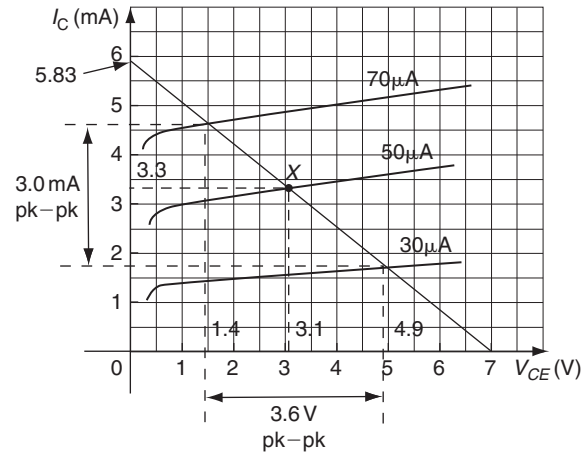

Figure 12.26
The characteristics are drawn as shown in Fig. 12.26.
- (b) The maximum and minimum values of collector-emitter voltage may be determined by locating the appropriate intercept points on Fig. 12.26. Note that the maximum and minimum values of base current will be $(50\text{ }\mu\text{A} + 20\text{ }\mu\text{A}) = 70\text{ }\mu\text{A}$ on positive peaks of the signal and $(50\text{ }\mu\text{A} - 20\text{ }\mu\text{A}) = 30\text{ }\mu\text{A}$ on negative peaks of the signal. The maximum and minimum values of V_{CE} are, respectively, 4.9 V and 1.4 V. Hence,
From Figure 12.26, the output current swing, i.e. the change in collector current, $\Delta I_C = 3.0 \text{ mA}$ peak to peak. The input base current swing, the change in base current, $\Delta I_B = 40 \mu\text{A}$.